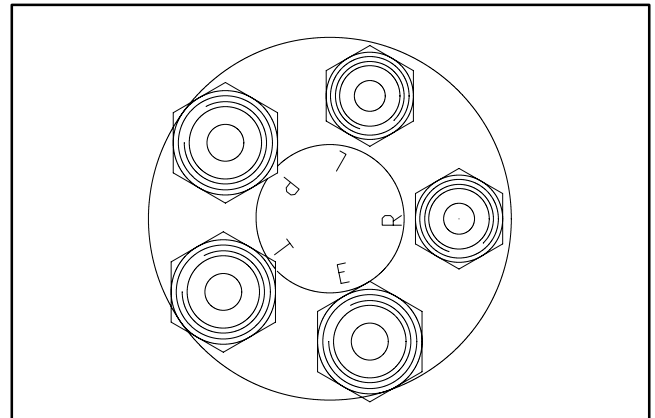

Figure 61
3. Label all hydraulic hoses and fittings for assembly purposes. Note port identification on steering control valve (Fig. 61).